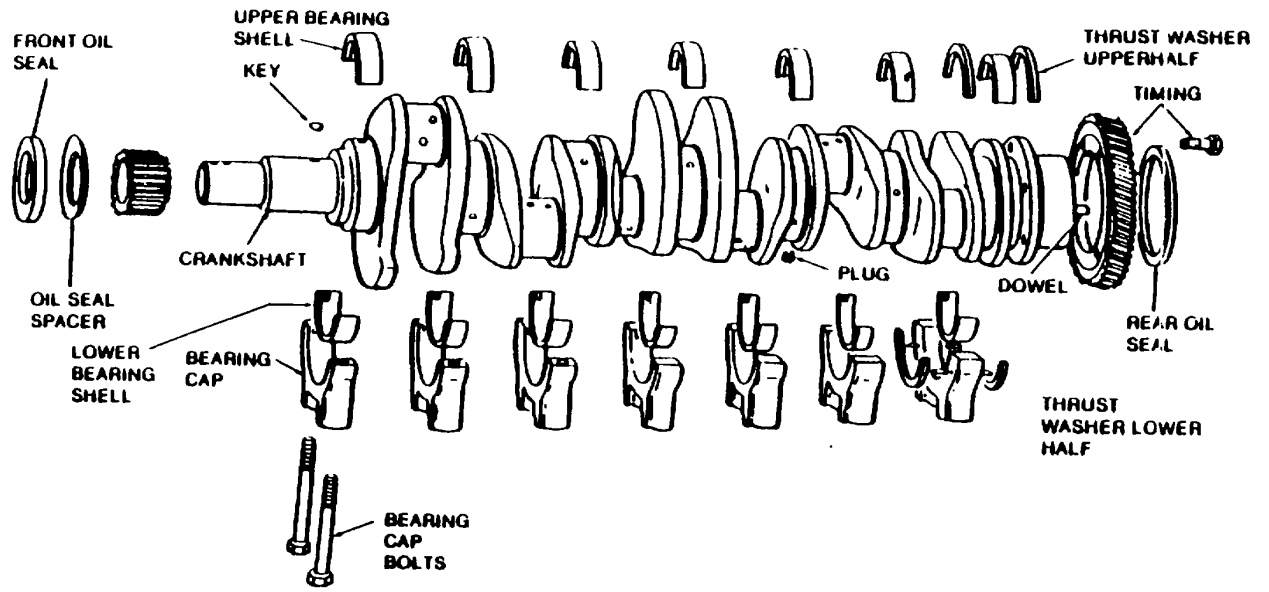

Figure 6-30. Crankshaft Assembly.
- (3) Remove oil pump inlet pipe and screen.
- (4) Remove flywheel and flywheel housing.
- (5) Remove crankshaft pulley as follows:
- (6) Remove front engine support.
- (7) Remove engine lower front cover and oil pump assembly.
- (8) Remove connecting rod bearing caps.
- (9) Remove main bearing caps.
- (10) Refer to Figure 6-30 and remove thrust washers from each side of rear main bearing.
- (11) Remove pistons and connecting rods. Remove liners if necessary.
- (12) Remove crankshaft, including timing gear.
- (1) Disassemble remaining components of crankshaft using Figure 6-30 as a reference.
- (2) Use a suitable puller to remove oil pump drive gear.